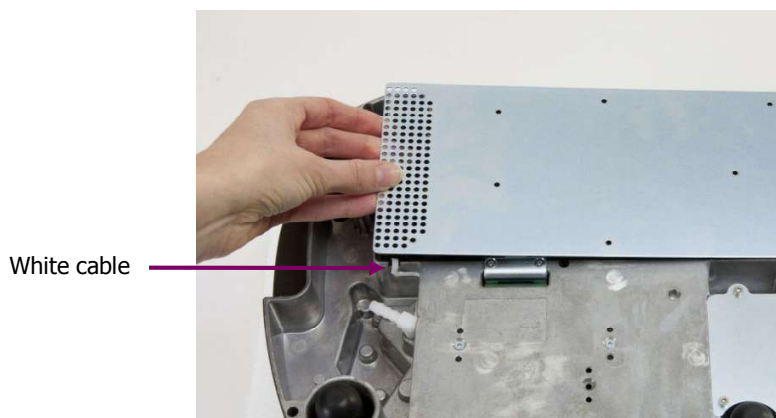

Figure 95 Replace the compartment cover
9. Replace the compartment cover, and secure with the screws retained in Step 2. Ensure that the white main board cable shown in Figure 95 is not trapped when you replace the compartment cover, but passes through the cut-out in the instrument housing.